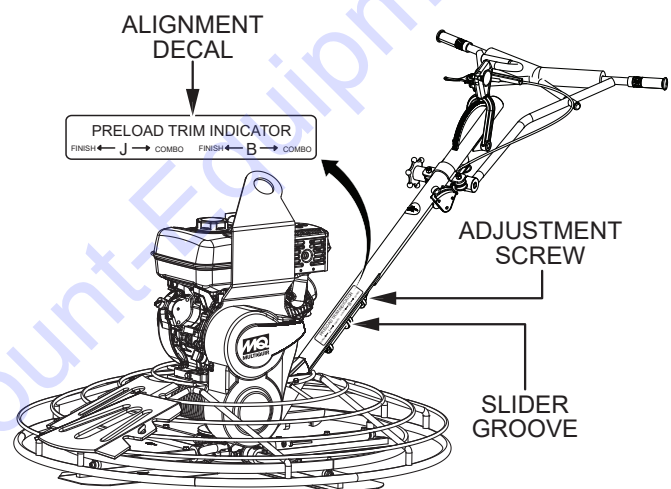

Figure 16. Spring Pre-Load Adjustment
- Locate the spring pre-load adjustment screw (Figure 16) on the underside of the handle tube.
- An alignment decal (Figure 16) has been placed on the side of the handle tube to assist the user in the adjustment of the Quick-Pitch™ handle spring. Align the groove on the slider with the letter 'J' on the decal.